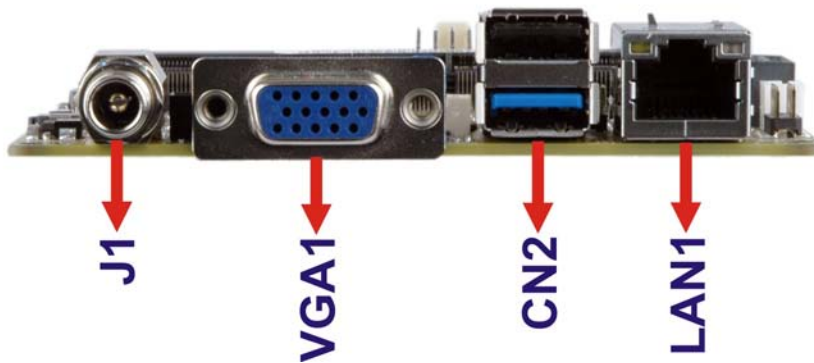

Figure 3-20: External Peripheral Interface Connector
Figure 3-20 shows the HYPER-BT external peripheral interface connector (EPIC) panel. The EPIC panel consists of the following:
CN Location: See **Figure 3-20**
| CN Location: | See Figure 3-20 |
- CN Location: See **Figure 3-20**